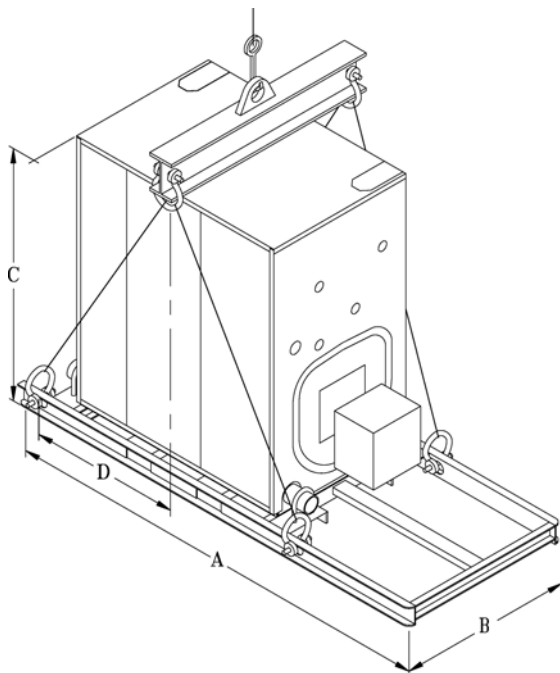

Figure 26: Shipping Information
1. The packaged boiler comes on it's own shipping skid (see Figure 26) and the assembled block is hydrostatically tested at the factory. Once the boiler is in it's final position, perform another hydrostatic test at 1½ times the working pressure of the boiler. The shipping skid can be used as a housekeeping pad unless local codes say otherwise. All controls are pre-wired down to the burner. If burner is equipped with a lead lag panel, lead lag controls will be shipped loose for header mounting. The power can be supplied to the burner if equipped with a control panel. If burner has no panel, the power is supplied to the J-box on the front jacket.